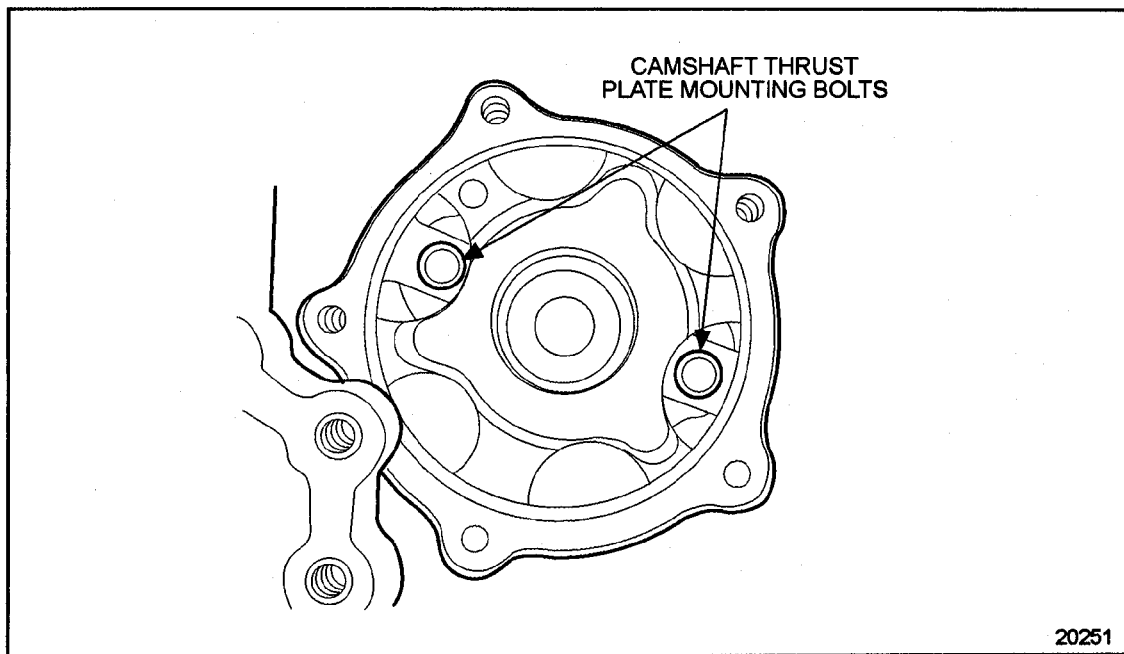

Figure 1-338 Camshaft Thrust Plate Mounting Bolts
10. Remove the two camshaft thrust plate mounting bolts carefully, to avoid dropping them into the gear case. See Figure 1-338.